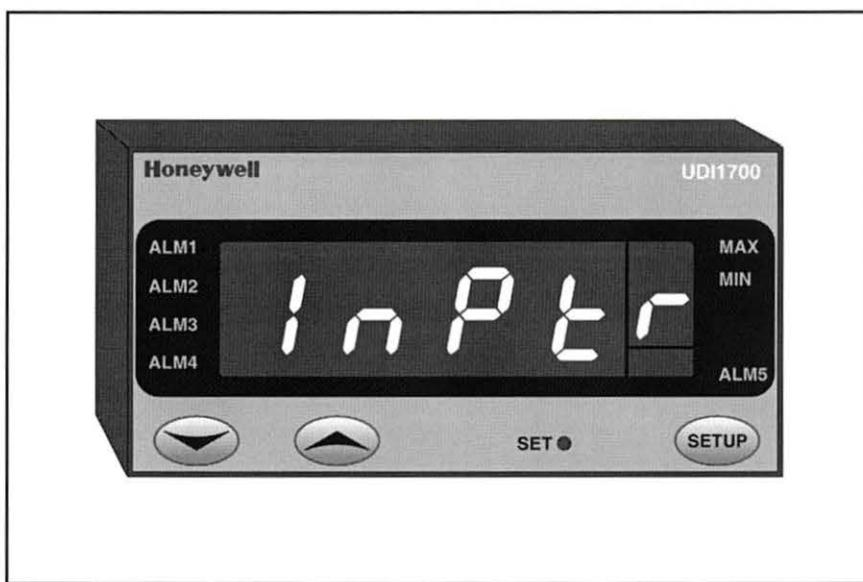

Figure 56. Input Parameter
Step 5: Select the Input Type/Range – If the input (inPt) parameter is not currently displayed, scroll to the input parameter by pressing the SETUP key until “inPt” appears on the display, as figure 56 shows. After one second, the current input value should appear. Using the up ▲ and down ▼ arrow keys, scroll until the desired value appears (i.e. 4-20mA). When the desired value appears, press the SETUP key. This causes the Yes (YES?) prompt to appear. Accept the new value by pressing the up ▲ arrow key.